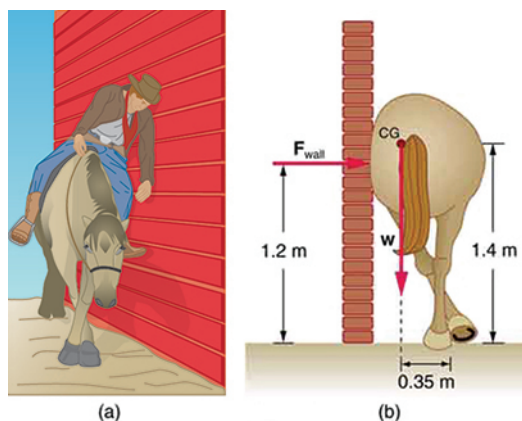

FIGURE 9.29
6. Suppose a horse leans against a wall as in Figure 9.29, emulating a scene in the comedy movie *Cat Ballou*. Calculate the force exerted on the wall assuming that force is horizontal while using the data in the schematic representation of the situation. Note that the force exerted on the wall is equal in magnitude and opposite in direction to the force exerted on the horse, keeping it in equilibrium. The total mass of the horse and rider is 500 kg. Take the data to be accurate to three digits.
8. (a) Calculate the magnitude and direction of the force on each foot of the horse in Figure 9.29 (two are on the ground), assuming the center of mass of the horse is midway between the feet. The total mass of the horse and rider is 500 kg. (b) What is the minimum coefficient of friction between the hooves and ground? Note that the force exerted by the wall is horizontal.